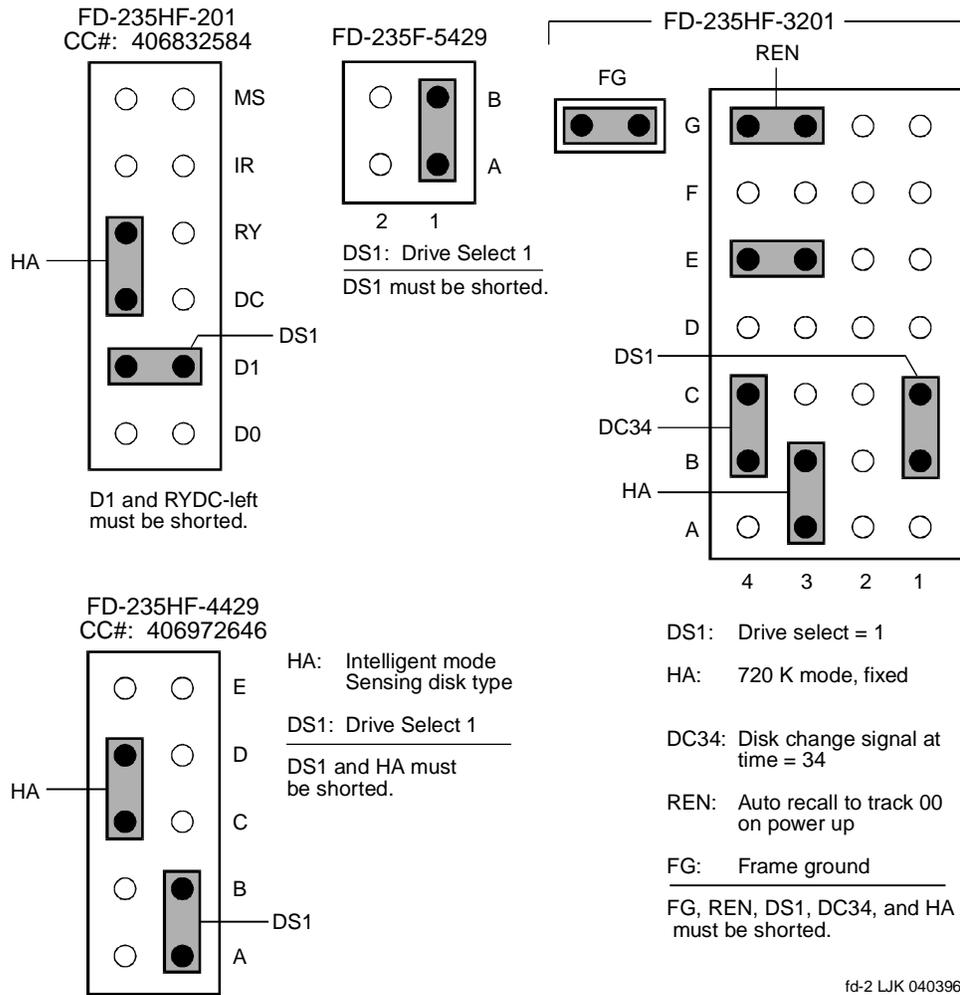
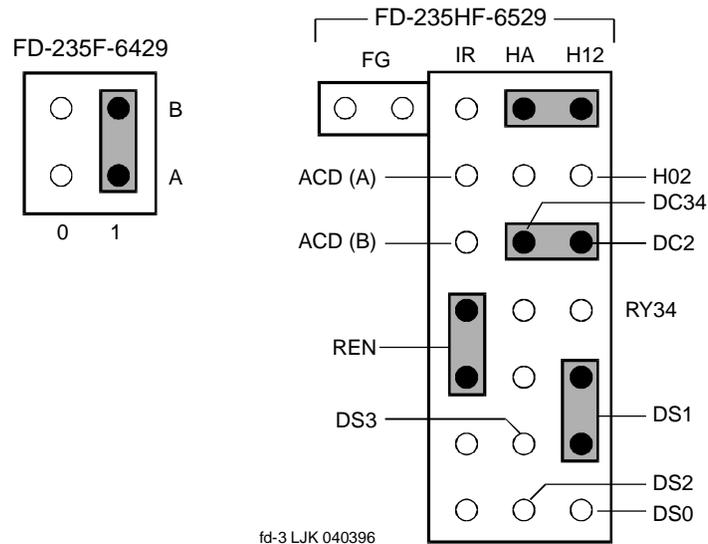

Figure 7-7. Floppy Disk Drive Jumper Connections (201, 3201, 4429, 5429)
Figure 7-8. Floppy Disk Drive Jumper Connections (6429, 6529)
3. Verify that the jumpers are set as shown in Figure 7-7 and Figure 7-8.